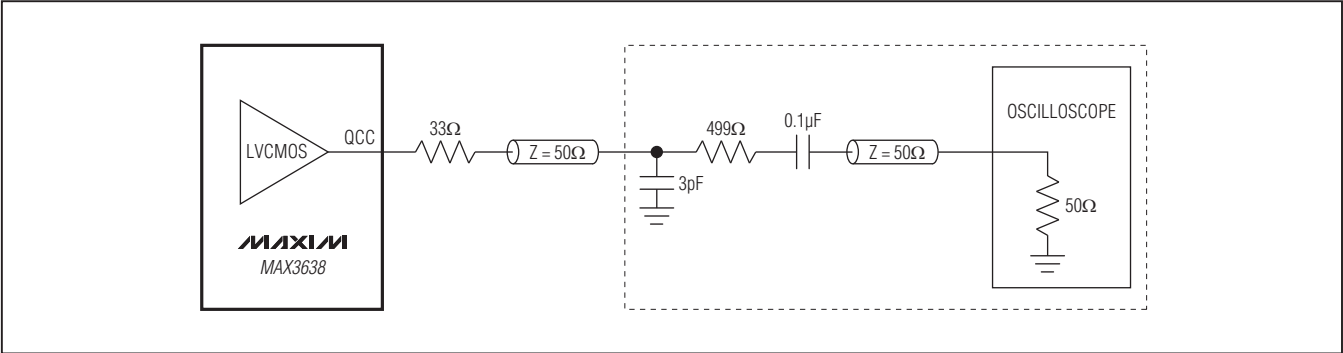

Figure 1. LVCMOS Output Measurement Setup
- Note 8:** Measured with a series resistor of 33Ω to a load capacitance of 3.0pF. See Figure 1.